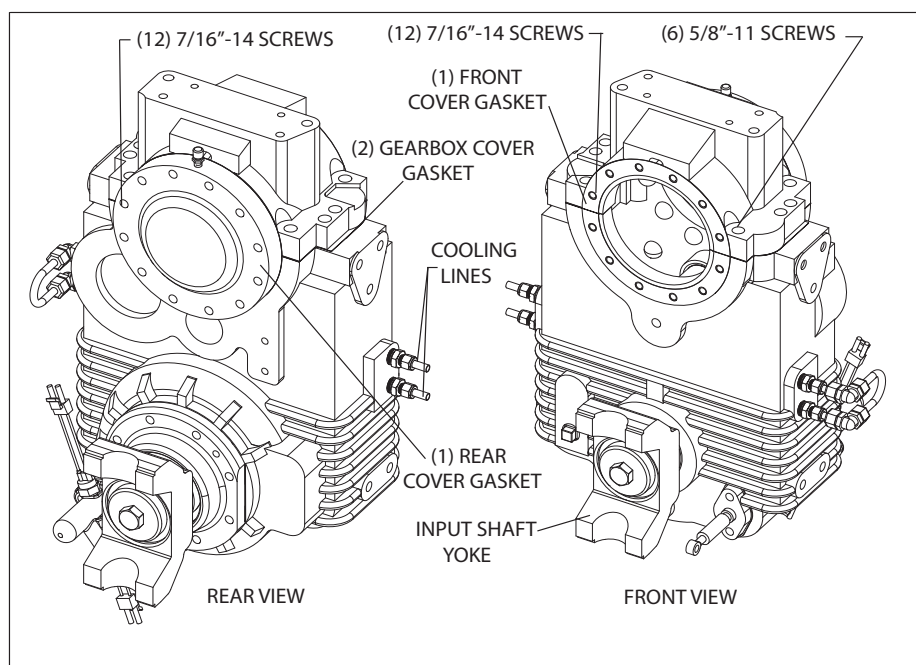

Figure 7-5: K Gearbox Removal
2. Remove twelve (12) 7/16"-14 x 1-1/2" screws in the rear cover, then remove cover and gasket. (See Figure 7-5: "K Gearbox Removal," on page 115.) Remove the spacer plate if installed.
3. Remove six (6) 5/8"-11 x 2-1/4" screws on the cover of the gearbox. (See Figure 7-5: "K Gearbox Removal," on page 115.)